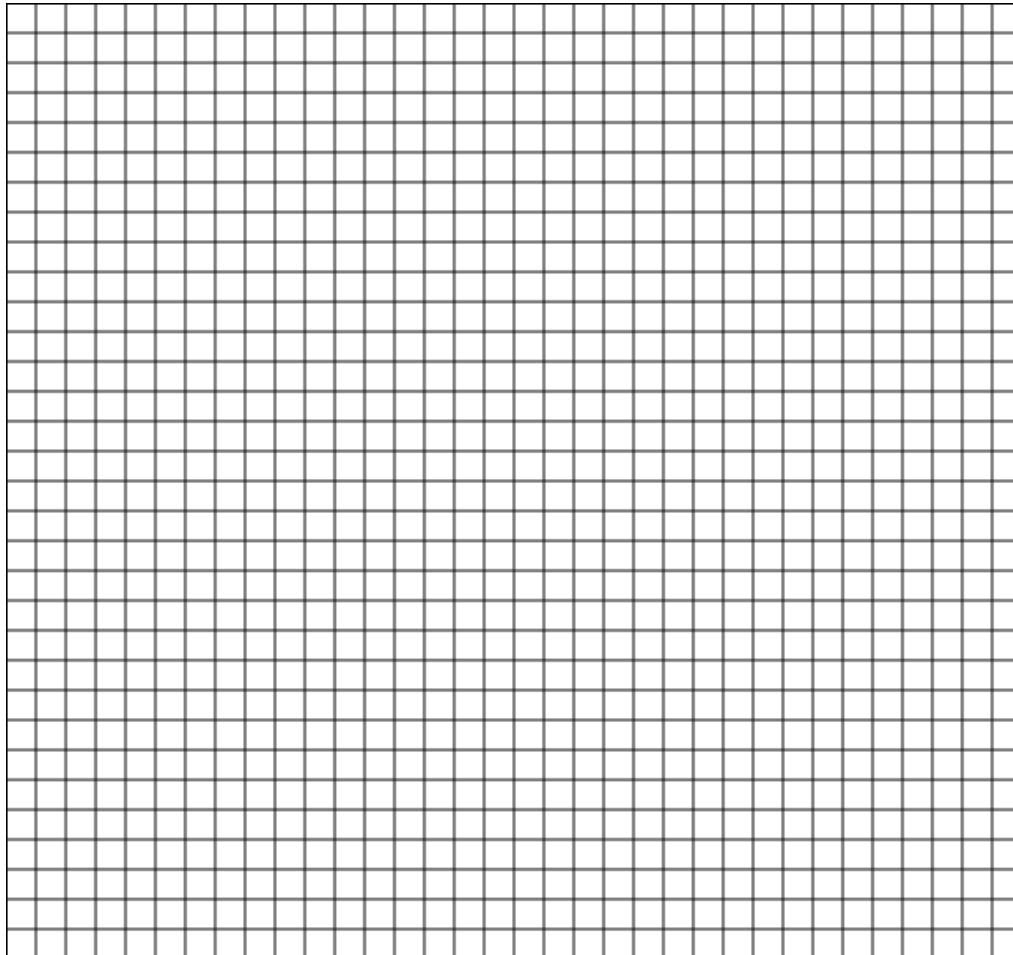

Figure 3
- a. Find the slope of your plots of the friction forces versus the normal force (Figures 3 and 4). Show your work here and give the values.
- b. What do the slopes of Figures 3 and 4 represent?